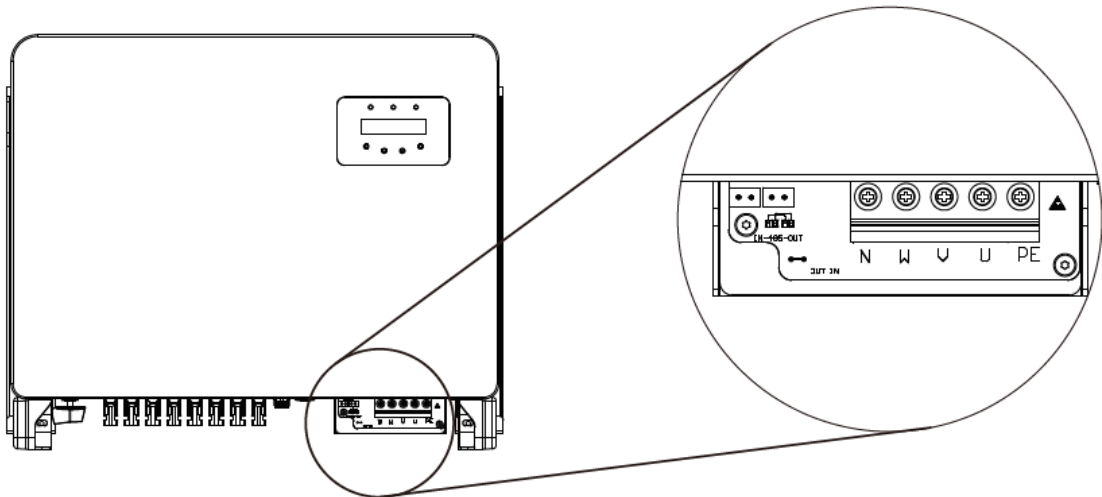

Figure 7.15.2 Wiring
- 4) Insert the cable through the nut, sheath, and AC terminal cover. Connect the cable to the AC terminal block in turn, using a socket wrench. Tighten the screws on the terminal block. The torque is 3~4Nm (as shown in Figure 7.15.2).